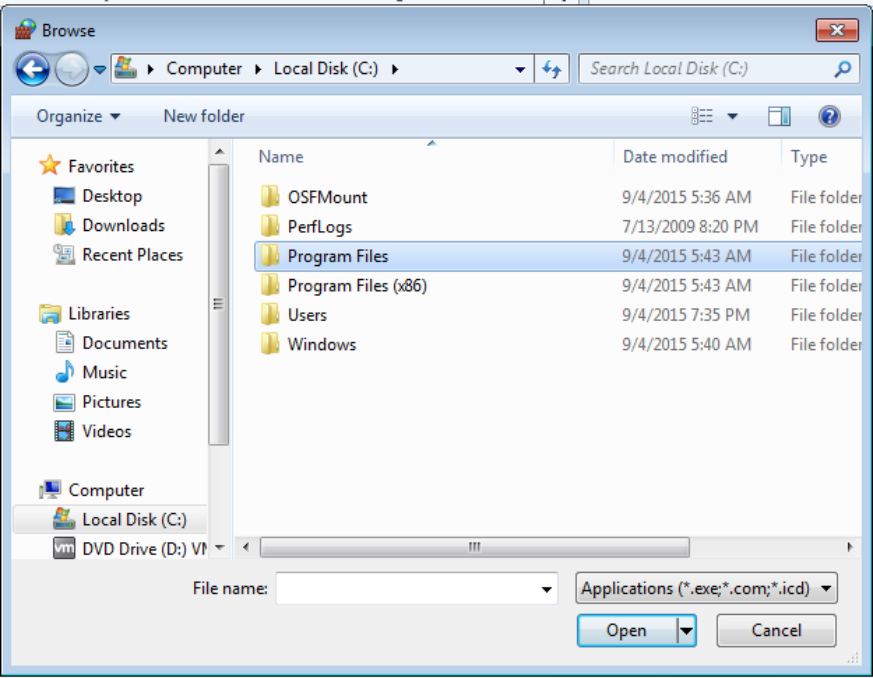

Fig.1.21 Local Disk C
(6)Click “Browse” and open Program Files folder in C (see Fig.1.21).